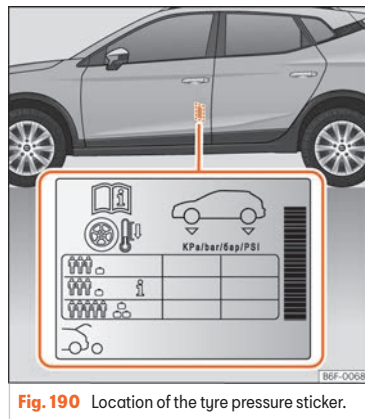

Fig. 190 Location of the tyre pressure sticker.
- Adjust tyre pressure to the load being carried by the vehicle »»» **Fig. 190**.
The values of the tyre pressure are shown on the sticker label located on the rear frame of the front left door >>> **Fig. 190.**
The tyre pressure must be adjusted according to the load the vehicle is carrying. If the vehicle is going to be fully loaded, increase the tyre pressure to the maximum load value shown on the sticker label >>> **Fig. 190.**
In the case of a minimised temporary spare wheel (125/70 R16 or 125/70 R18) inflate to a pressure of 4,2 bar as indicated on the tyre pressure label >>> **Fig. 190.**
Depending on the vehicle, tyre pressure can be adjusted to medium load to improve driving comfort (tyre pressure **i** >>> **Fig. 190**). When driving with comfort tyre pressure fuel consumption may increase slightly.
- The driver is responsible for ensuring that all of the vehicle tyres are correctly inflated to the right pressure. The recommended tyre pressure is indicated on the label >>> **Fig. 190.**
- Tyre pressure should be that indicated on the label when the tyres are cold at all times >>> **Fig. 190.**